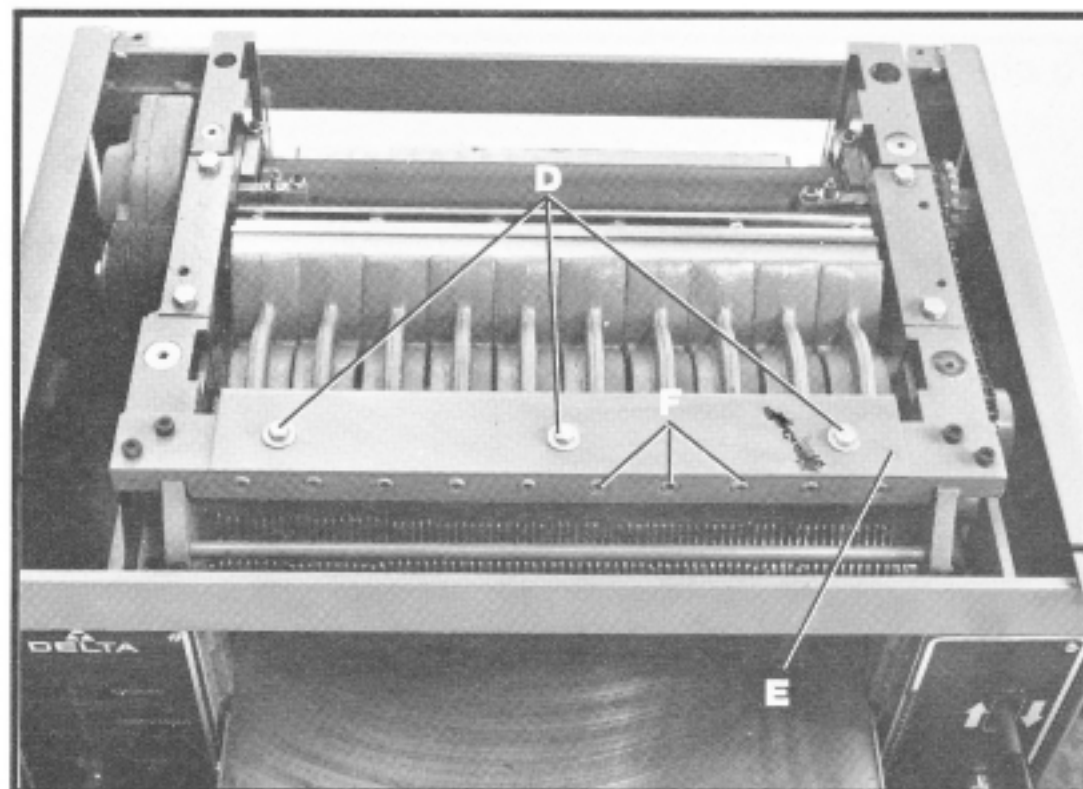

Fig. 25
5. If an adjustment to the chipbreakers is necessary, loosen three screws (D) Fig. 25, and move chipbreaker bracket (E) until bottom of chipbreakers just touch gage block at both ends.
6. The spring tension of the individual chipbreakers can be adjusted by tightening or loosening the ten adjusting screws (F) Fig. 25.